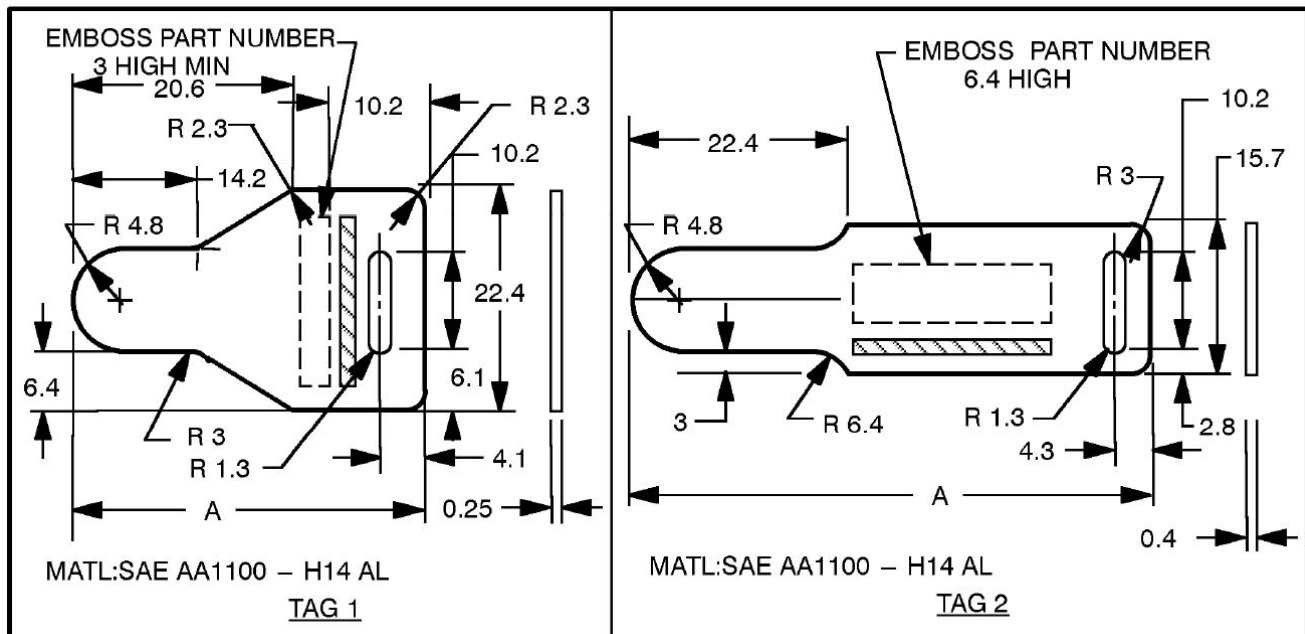

Figure 3 - Tag Configuration (mm)
4.8.2.2 Figures 3 and 4 give the information necessary for selecting and making tags for parts according to their diameter. Variations in dimensions and design that do not affect application are acceptable. These tags are intended to be wrapped around the item to be identified, inserting tab through slot and then bending tab to secure in place. If this creates a problem by not allowing good paint coverage (under the tag) it is allowable to attach the tag using a tie wrap.
4.8.2.3 When “Country of Origin” marking is required (Refer to Specification 1E0011) it shall be stamped with a minimum size of 3 mm high letters in the area  shown on the drawing in Figure 3.